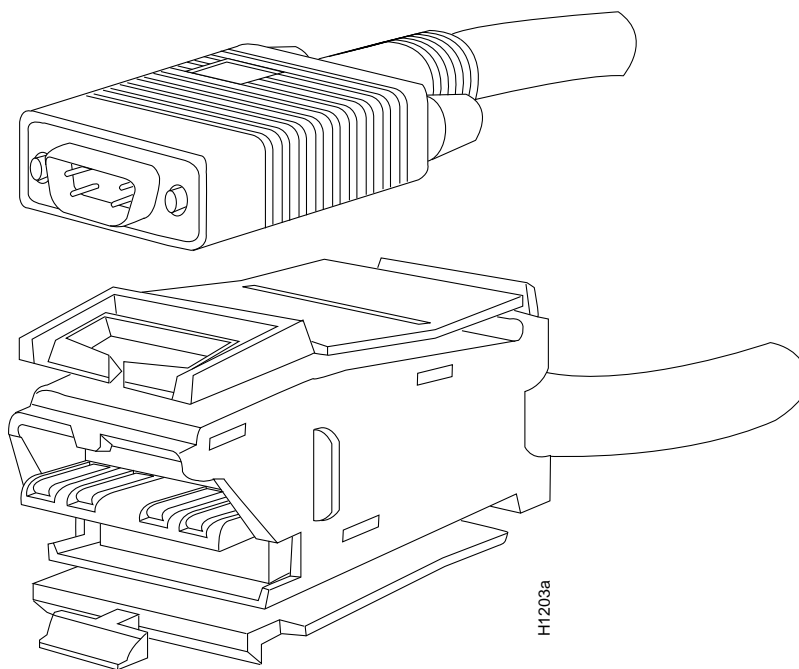

Figure 3-9 Token Ring Chassis and Network (MAU) Connectors
- Token Ring chassis and network (MAU) connectors, Figure 3-9